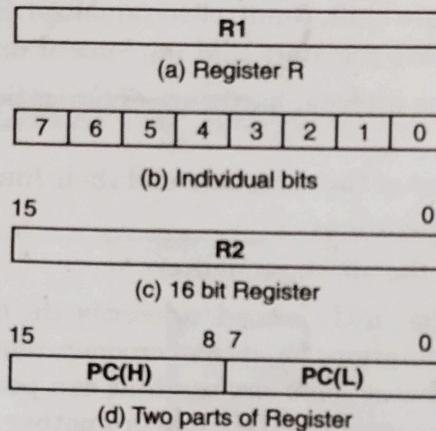

Fig. 5.1. The block diagram of different types of registers
The individual flip-flops in an n-bit register are numbered in sequence from 0 to n-1, see Fig. 5.1 for the different representations of a registers.
Figure 5.1 shows the different types representation of registers in block diagram form. The most common way to represent a register is by a rectangular box with the name of the
register inside, as in Fig. 5.1(a). The individual bits can be distinguished as in (b). The numbering of bits in a 16-bit register can be marked on top of the box as shown in (c). A 16-bit register is partitioned into two parts in (d). Bits 0 through 7 are assigned the symbol L (for low byte) and bits 8 through 15 are assigned the symbol H (for high byte). The name of the 16-bit register is PC. The symbol PC (0 – 7) or PC(L) refers to the low-order byte and PC(8 – 15) or PC(H) to the high-order byte.